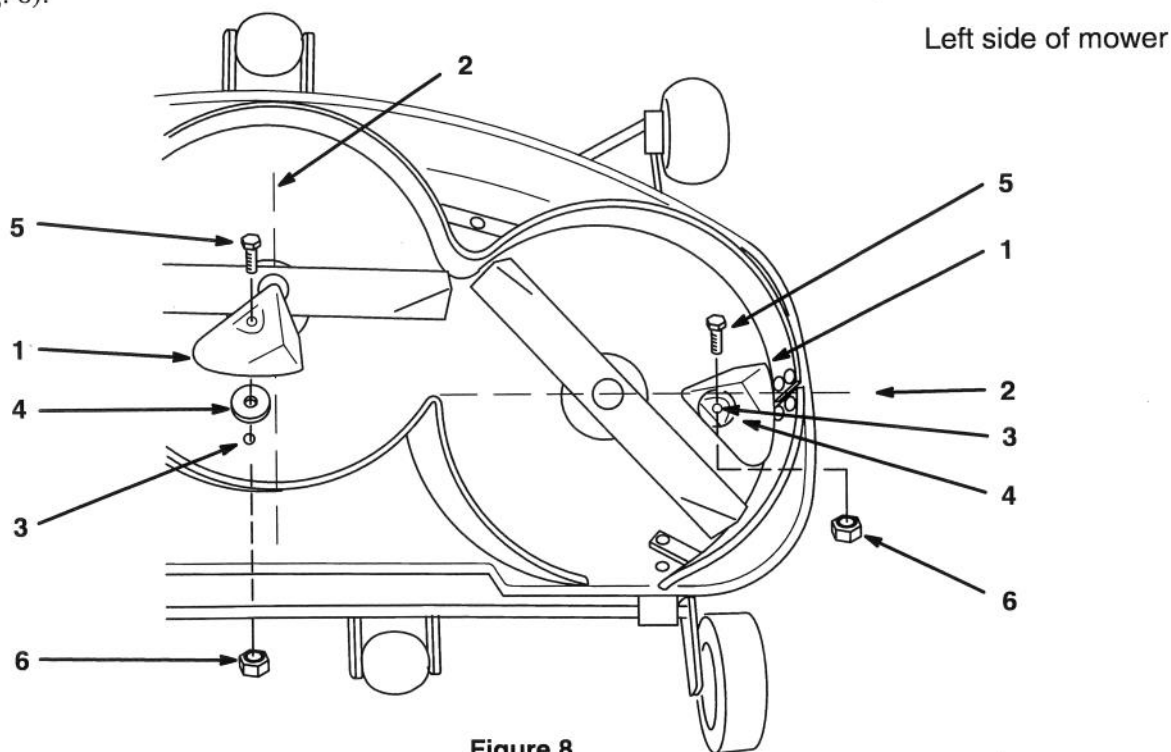

Figure 8
6. Place kickers in center and left chambers so points align with spindle center lines (Fig. 8).
7. Hold kickers tight against deck baffle and mark hole locations (Fig. 8).
8. Remove kickers and drill (2) 11/32" holes in deck (Fig. 8).
9. Place kickers with 3/8–16 x 1" (26 mm) bolt inside mower and spacer between kicker and mower. Secure with 3/8" lock nut on top of mower (Fig. 8).